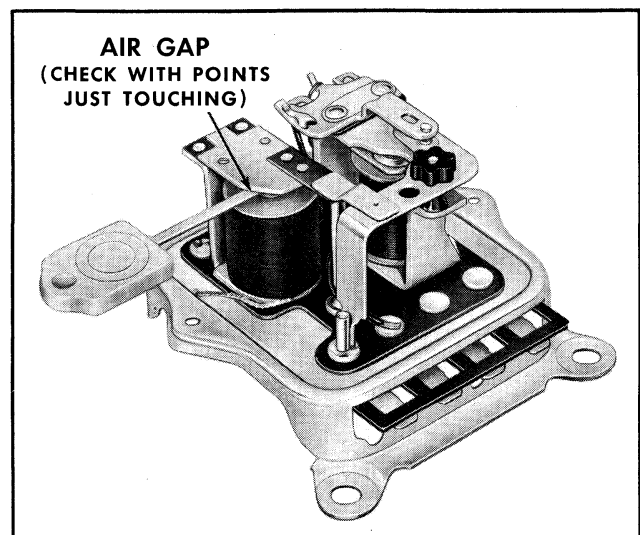

Fig. 11-39 Checking Field Relay Air Gap
1. Air Gap: With the regulator removed from the vehicle, check the air gap with the points just touching as shown in Fig. 11-39. If adjustment is necessary, carefully bend the flat contact support spring.